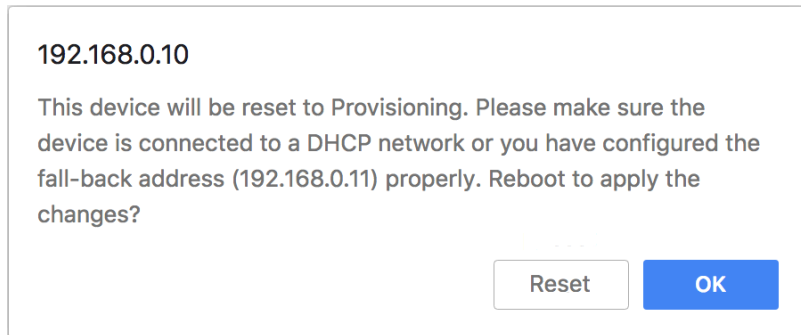

Figure 19. Unit reboot dialog (typical)
- The web browser will show the unit reboot dialog (Figure 19 \(page 67\)).